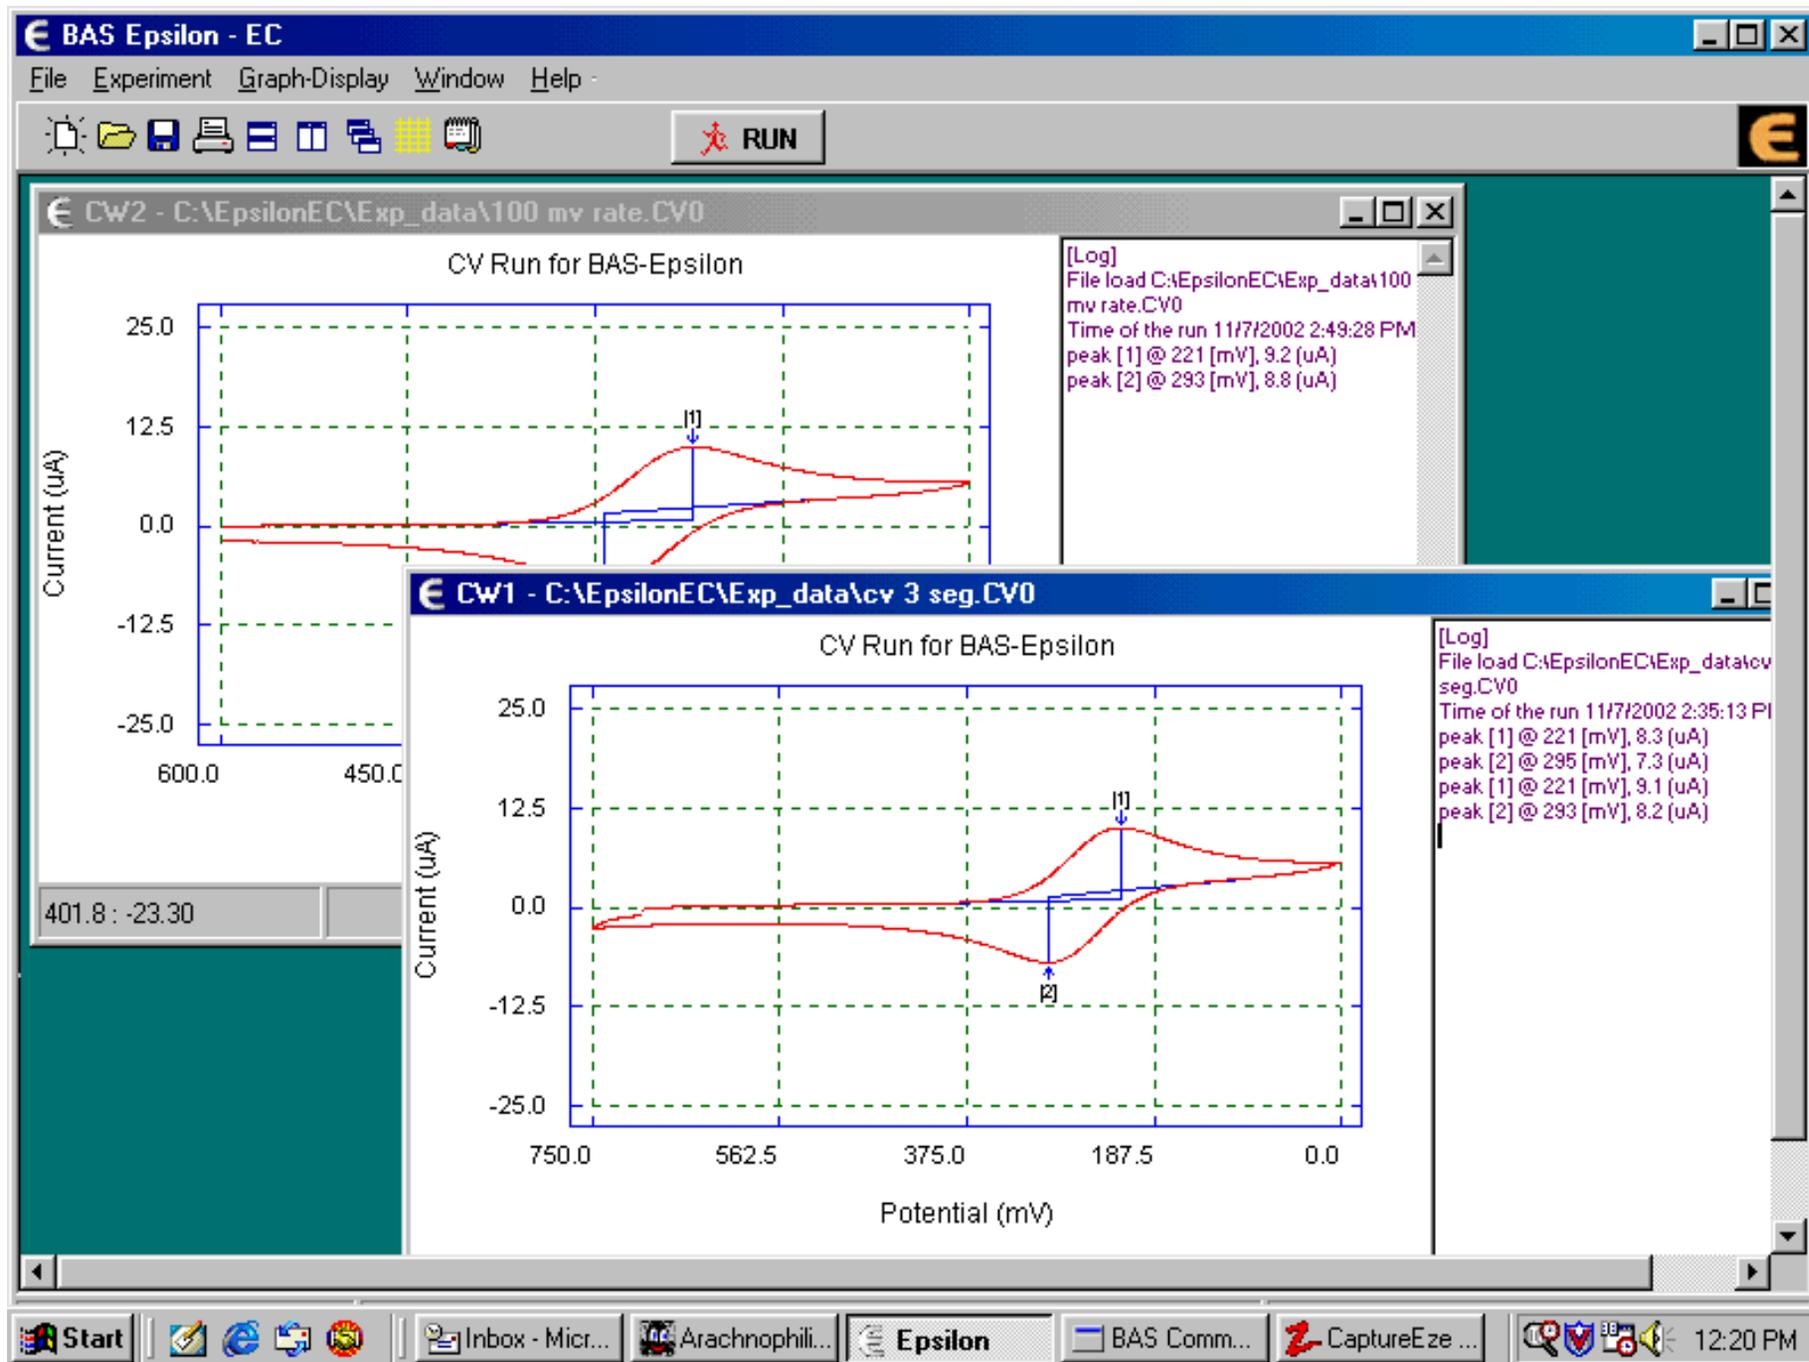

Figure 12.
- When this experiment has finished, *both* experiment windows are displayed in the main epsilon window (**Figure 12**). Up to 6 experiment windows can be displayed. However, only one experiment window can be active at any one time, and any epsilon functions and operations are applied only to the data in the active experiment window.